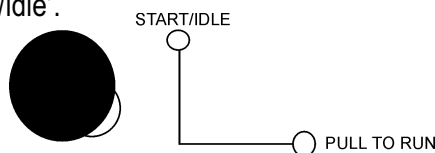

Figure 17. Engine Throttle Lever (low)
6. Make sure the engine throttle (Figure 17) is in 'start/idle'.